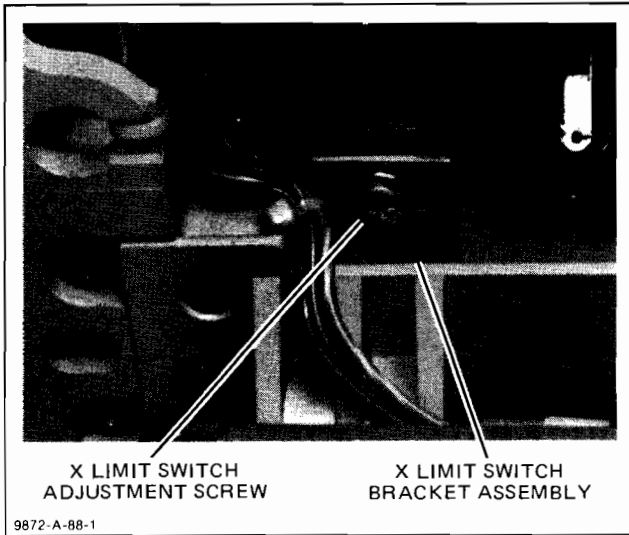

Figure 6-39. X-limit Switch Removal
- c. Remove the screw securing the switch to the switch bracket, and remove the switch. See Figure 6-39.